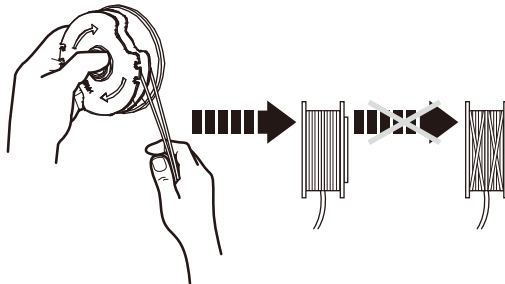

Fig. 26
7. Wind all the trimming lines firmly around the trimming spool (12c) in direction of the arrows on the trimming spool (12c) (Fig. 26).